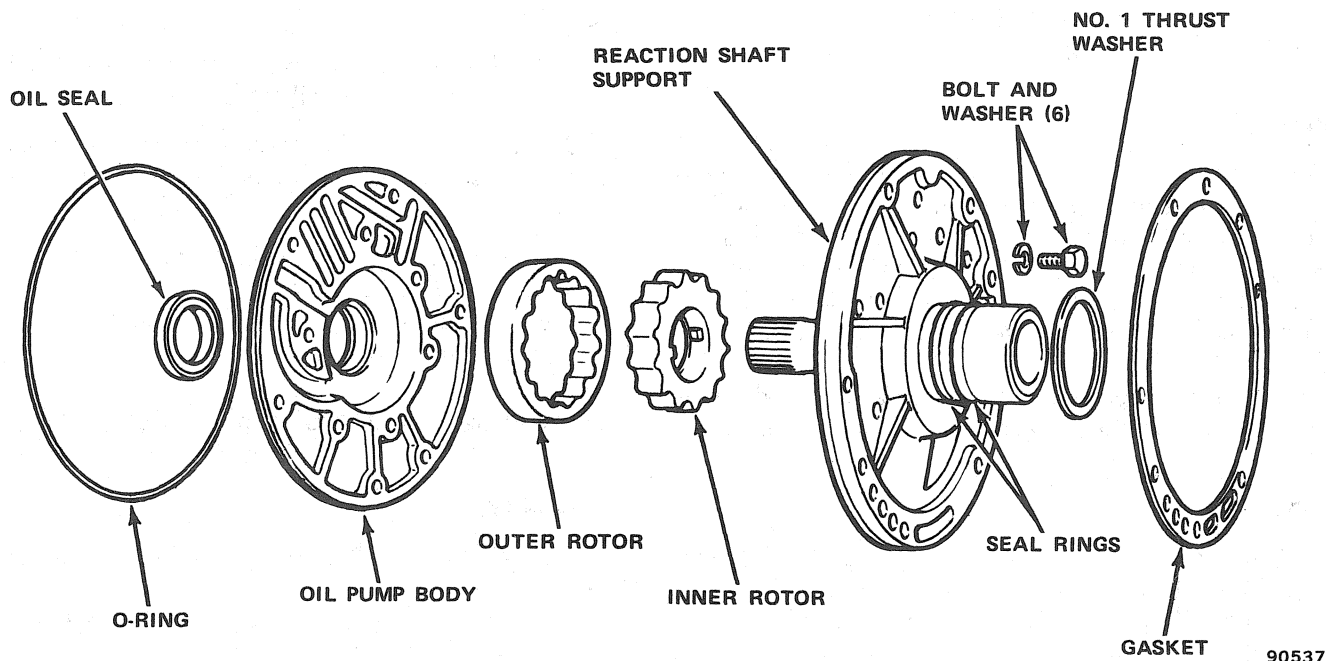

Fig. 2C-51 Oil Pump Assembly—Models 904/999
(2) Remove bushing using Remover and Installer Tool J-24049 and Driver Handle J-8092 (fig. 2C-54).